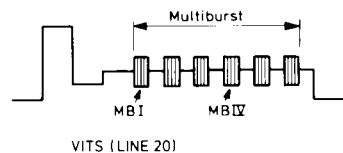

Fig. 15
- Adjust R3057 so that the amplitude of MB IV = MBI (see Fig. 15).